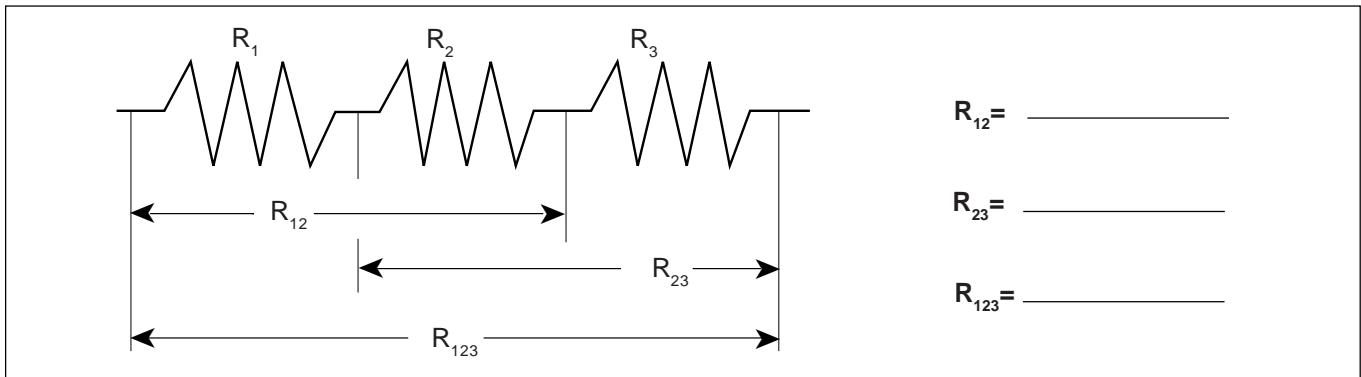

Figure 4.1
- ⑤ Now connect the three resistors into the SERIES CIRCUIT, figure 4.1, using the spring clips on the Circuits Experiment Board to hold the leads of the resistors together without bending them. Measure the resistances of the combinations as indicated on the diagram by connecting the leads of the Multimeter between the points at the ends of the arrows.